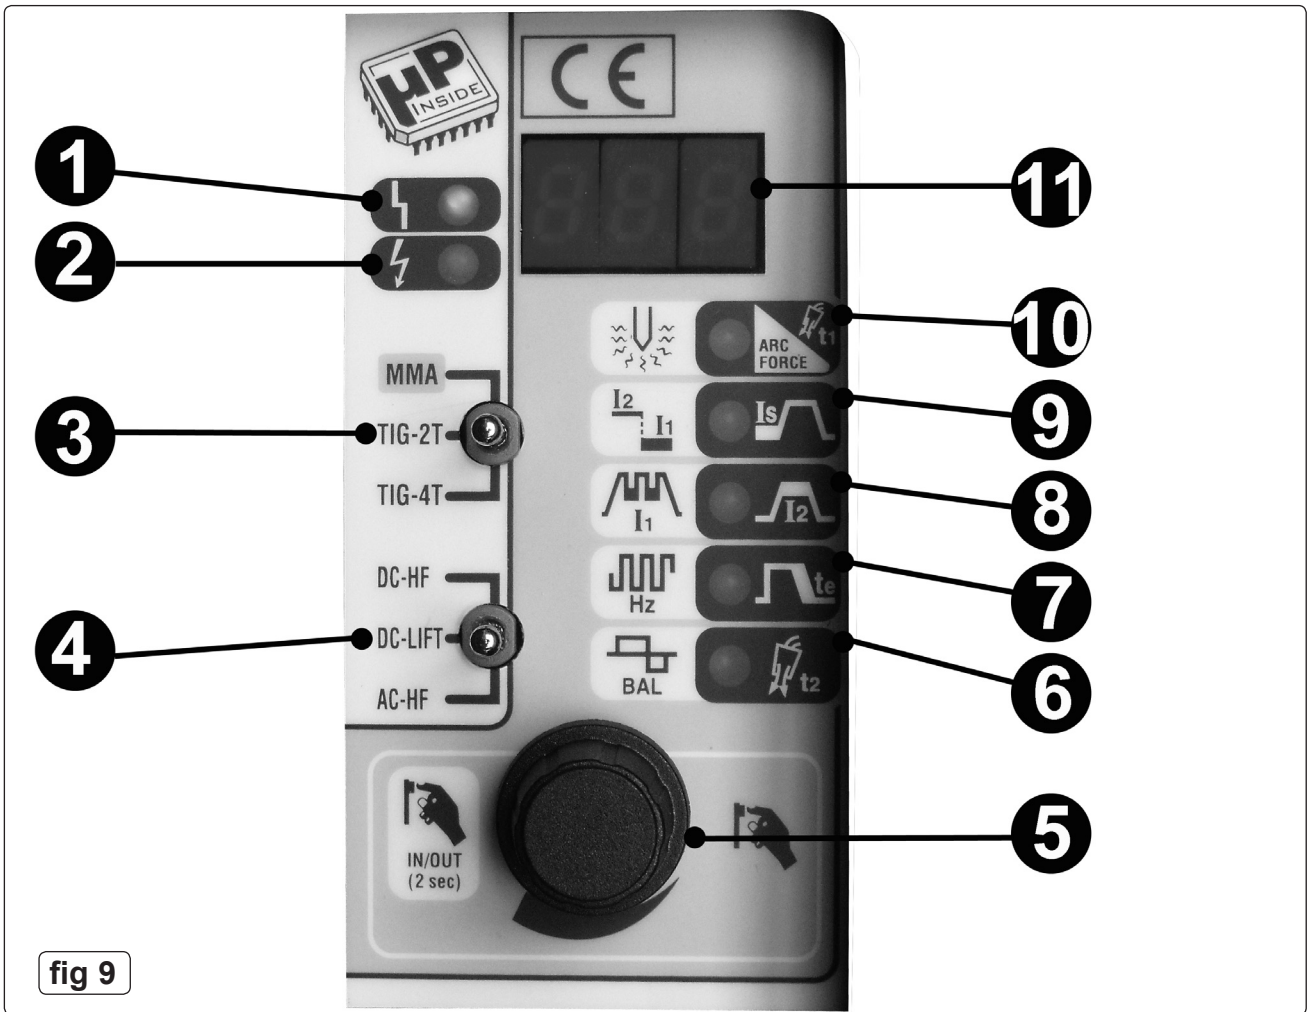

fig 9
- 4.2 **ALARM CONDITION.** (fig.9 item 1)
- 4.3 **OUTPUT VOLTAGE.** (fig.9 item 2)
- 4.4 **TIG/MMA MODE SELECTOR.** (fig.9 item 3)
- 4.5 **TIG MODE SELECTOR.** (fig.9 item 4)
- 4.6 **BUTTON AND ENCODER.** (fig.9 item 5)
For the selection and setting of welding parameters. Allows the selection of one of the available parameters associated with welding mode/current indicated by the illumination of one of the LEDs (fig.9 items 6 -10)
- 4.7 **POST GAS/BALANCE LED.** (fig.9 item 6)
- 4.8 **END SLOPE/FREQUENCY LED.** (fig.9 item 7)
- 4.9 **MAIN CURRENT/PULSED MODE OPERATION LED.** (fig.9 item 8)
In TIG AC/DC mode, this function activates the PULSED operation and allows adjustment of the second level current  $I_1$ , which can be alternated with the main current  $I_2$  in the pulse. The value of current  $I_1$  can vary between the minimum and the main welding current value  $I_2$ . In order to disable the PULSED operation, rotate the ENCODER (fig.9 item 5) in an anti-clockwise direction until the message 'OFF' is displayed on the ALPHANUMERIC DISPLAY (fig.9 item 11).
- 4.10 **INITIAL CURRENT/BI-LEVEL LED.** (fig.9 item 9)
In TIG 4-stroke mode, this activates the BI-LEVEL function and allows adjustment of the second-level current permitting manual selection (from the torch pushbutton during the welding operation) between two current levels:  $I_2$  and  $I_1$ . The  $I_2$  main level current is defined by the welding current set, where as level  $I_1$  can be changed by means of the ENCODER (fig.9 item 5), between the current's minimum value and the value of the main welding current. In order to disable the operation in BI-LEVEL, rotate the ENCODER (fig.9 item 5) in an anti-clockwise direction, until the message 'OFF' is displayed on the ALPHANUMERIC DISPLAY (fig.9 item 11).
- 4.11 **ARC FORCE & PREGAS/ELECTRODE PREHEATING.** (fig.9 item 10)
- 4.12 **ALPHANUMERIC DISPLAY.** (fig.9 item 11)